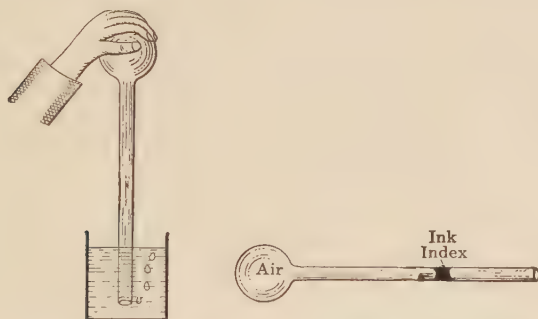

FIG. 21. — Expansion and contraction of a gas under changes of temperature.
16. Will gases expand? After seeing that some solids and liquids expand when heated, we may wonder if gases expand similarly. Experiment will show us. A large glass bulb, with a long, slender tube attached, is held with the open end of the tube under water, as in Fig. 21. Since the